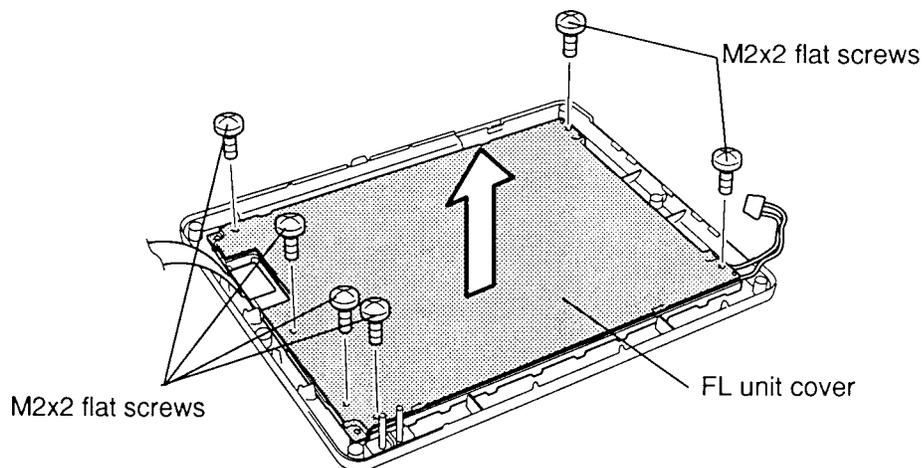

Figure 4-26 Removing the FL Unit Cover
4. Remove the **six M2x2 flat screws** securing the **FL unit cover** (Figure 4-26).
3. Place the **FL unit cover** and secure it with **six M2x2 flat screws** (Figure 4-26).